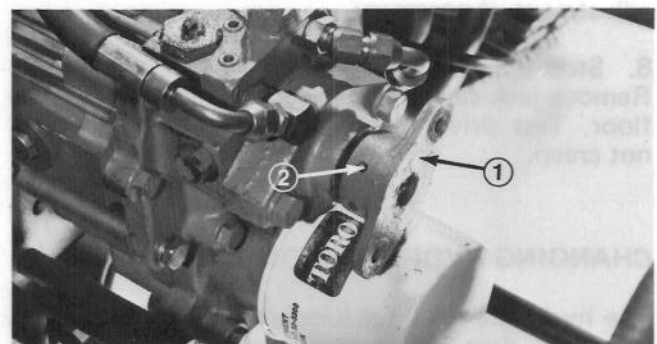

Figure 76
4. Loosen two set screws retaining hub on pump shaft (Fig. 76). Slide hub off shaft.
6. Set drain pan below front of transmission. Remove two capscrews and flatwashers securing charge pump housing to center section (Fig. 76). Using a seal protector, slide charge pump housing and rotor assembly off pump shaft. O-ring will probably stay in groove on inside of charge pump housing.